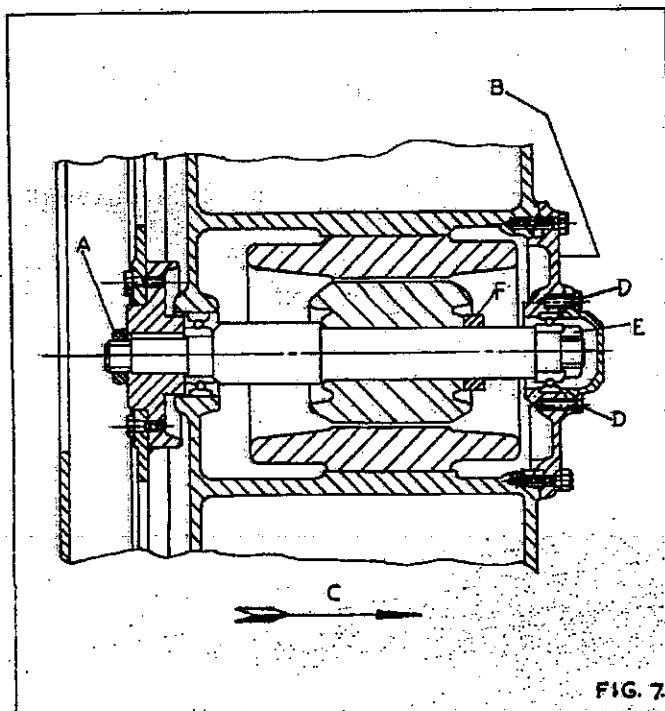

FIG. 7.
3. Unscrew locknut "A", in fig. 7, and remove the hub and key from the spindle.